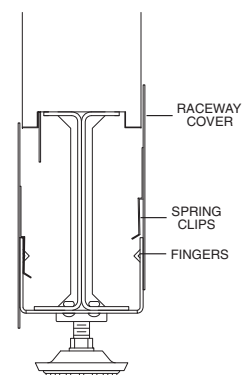

FIG. 3
1. With panels installed and all wiring completed, the last step is to install the raceway covers. There are spring clips on the backside of the raceway covers. Push the raceway cover down until the spring clips snap onto the fingers provided (Figure 3).